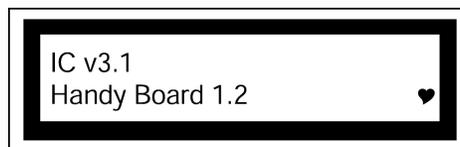

Figure 2. Healthy Handy Board LCD screen at startup.
3. Once the download process is complete, restart the Handy Board. If everything is working well, the LCD screen should appear as in Figure 2 with the heart beating. If the download process is unsuccessful, then ask your TA for help.